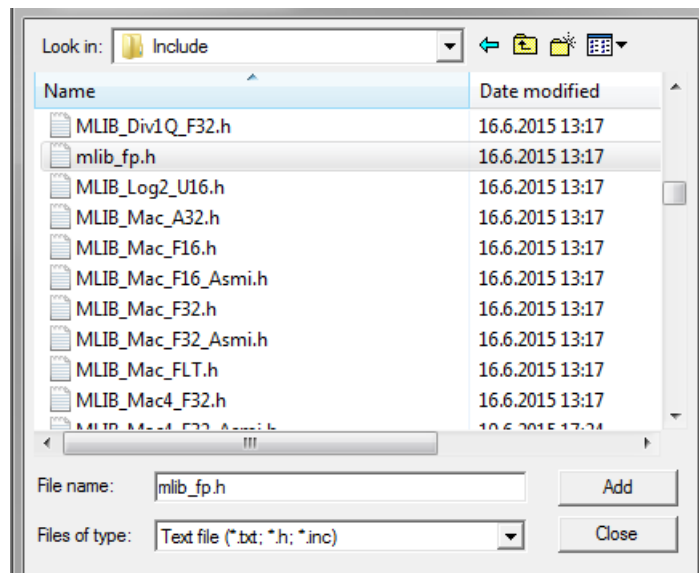

Figure 1-22. Adding .h files dialog
4. Navigate into the library installation folder C:\NXP\RTCESL\CM4F_RTCESL_4.3_KEIL\MLIB\Include, and select the *mlib_fp.h* file. If the file does not appear, set the Files of type filter to Text file. Click Add. See Figure 1-22.